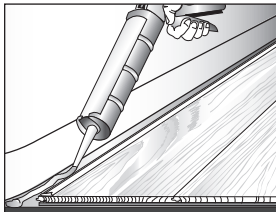

Figure 20
- All perimeter expansion zones must be completely filled with 100% silicone caulk following the manufacturer's recommendations. When applying caulk, it is helpful to first apply a strip of painter's tape (Scotch® Delicate Surface Painter's Tape 2080) parallel to and approximately 1/32” (.79 mm) from the edge of the hardwood (Fig. 20). Then fill the expansion zone with caulk, remove the excess with a plastic scraper or putty knife and remove the tape.